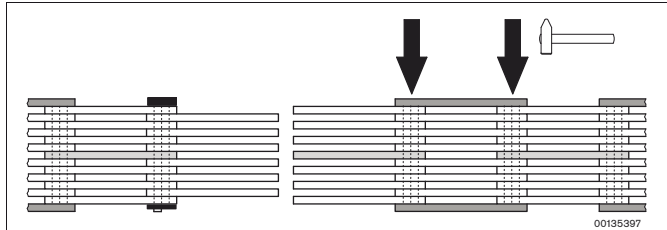

Fig. 11: Breaking the weld seam to shorten
2. **Shortening:** Measure the length of the chain section that you want to remove and break the weld seam **on one side** at the required spot by a stroke to the front side of the pins (see Fig. 11).